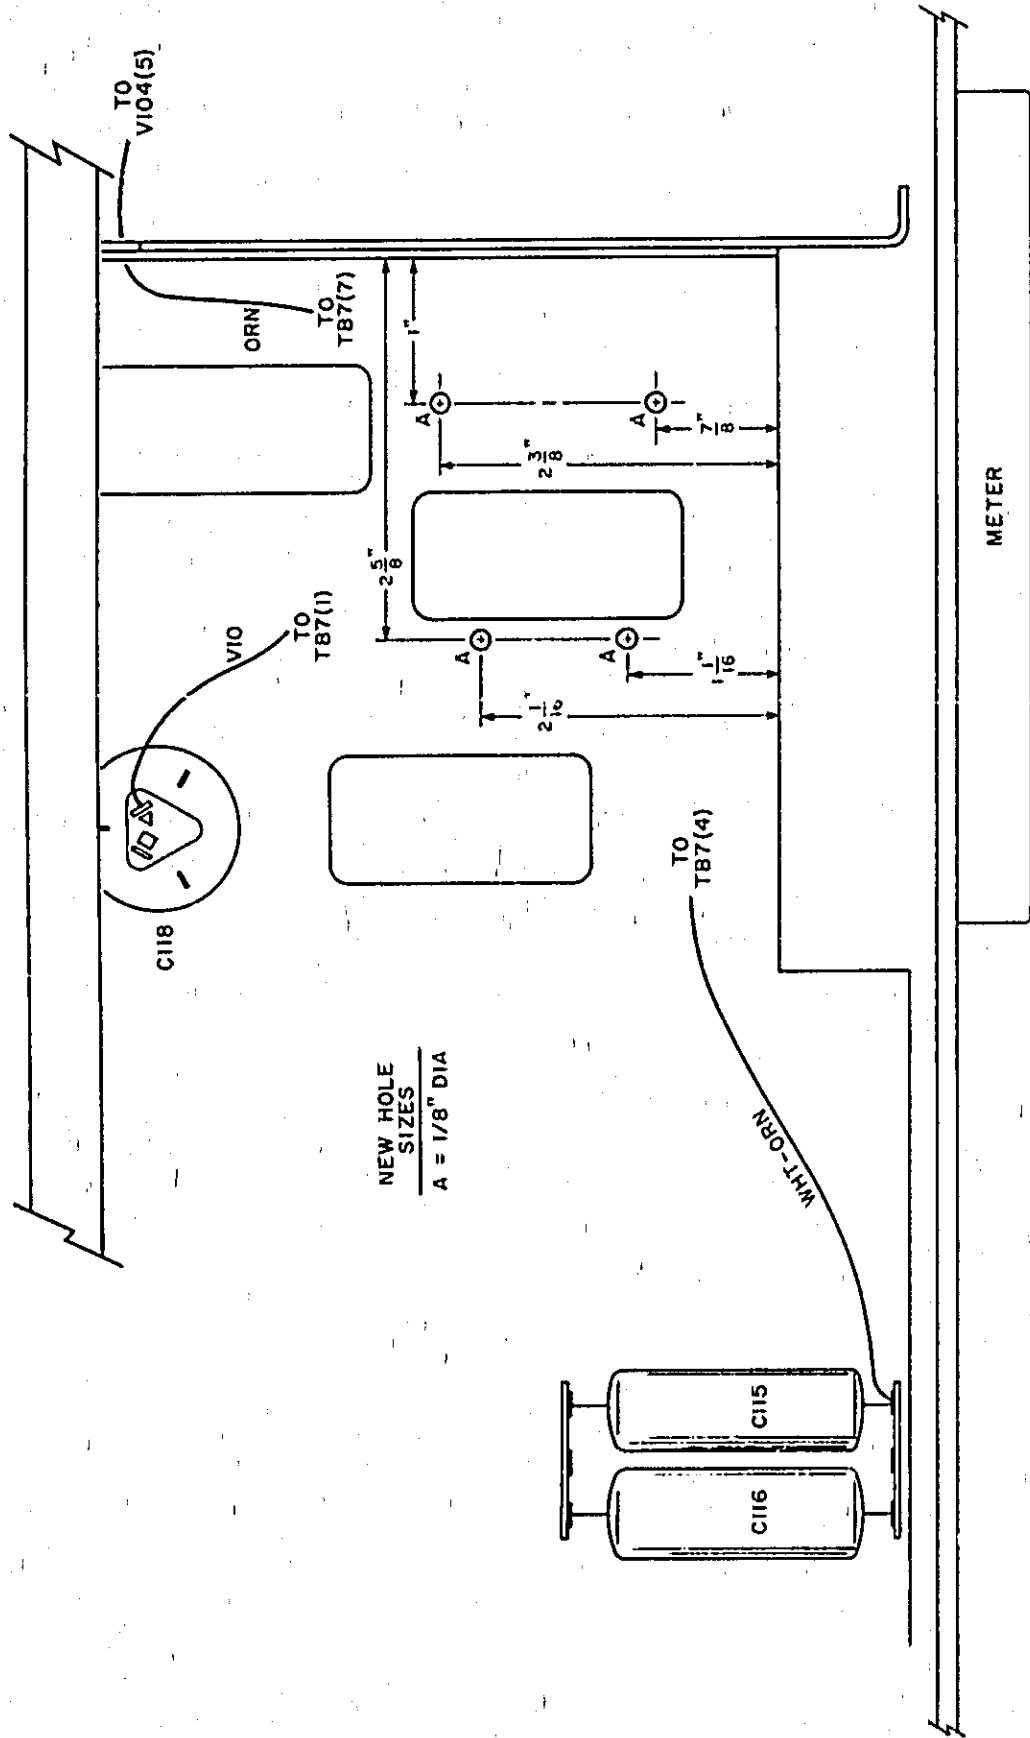

Figure 2. Bottom View of 412AR
3. Drill holes as diagrammed in Figure 2. Mount 7 pin terminal strip and potentiometer. Replace power transformer and reconnect the two bias resistors.
5. Refer to Figure 2 & 3. Connect a violet lead from TB7 (1) to negative side of C118. Connect two black leads from TB7 (3) and TB7 (5) to corresponding sides of zero adjust control (R129). Connect a white-orange lead from TB7 (4) to C115, and an orange lead from TB7 (7) through the metal grommet to V104 (5).